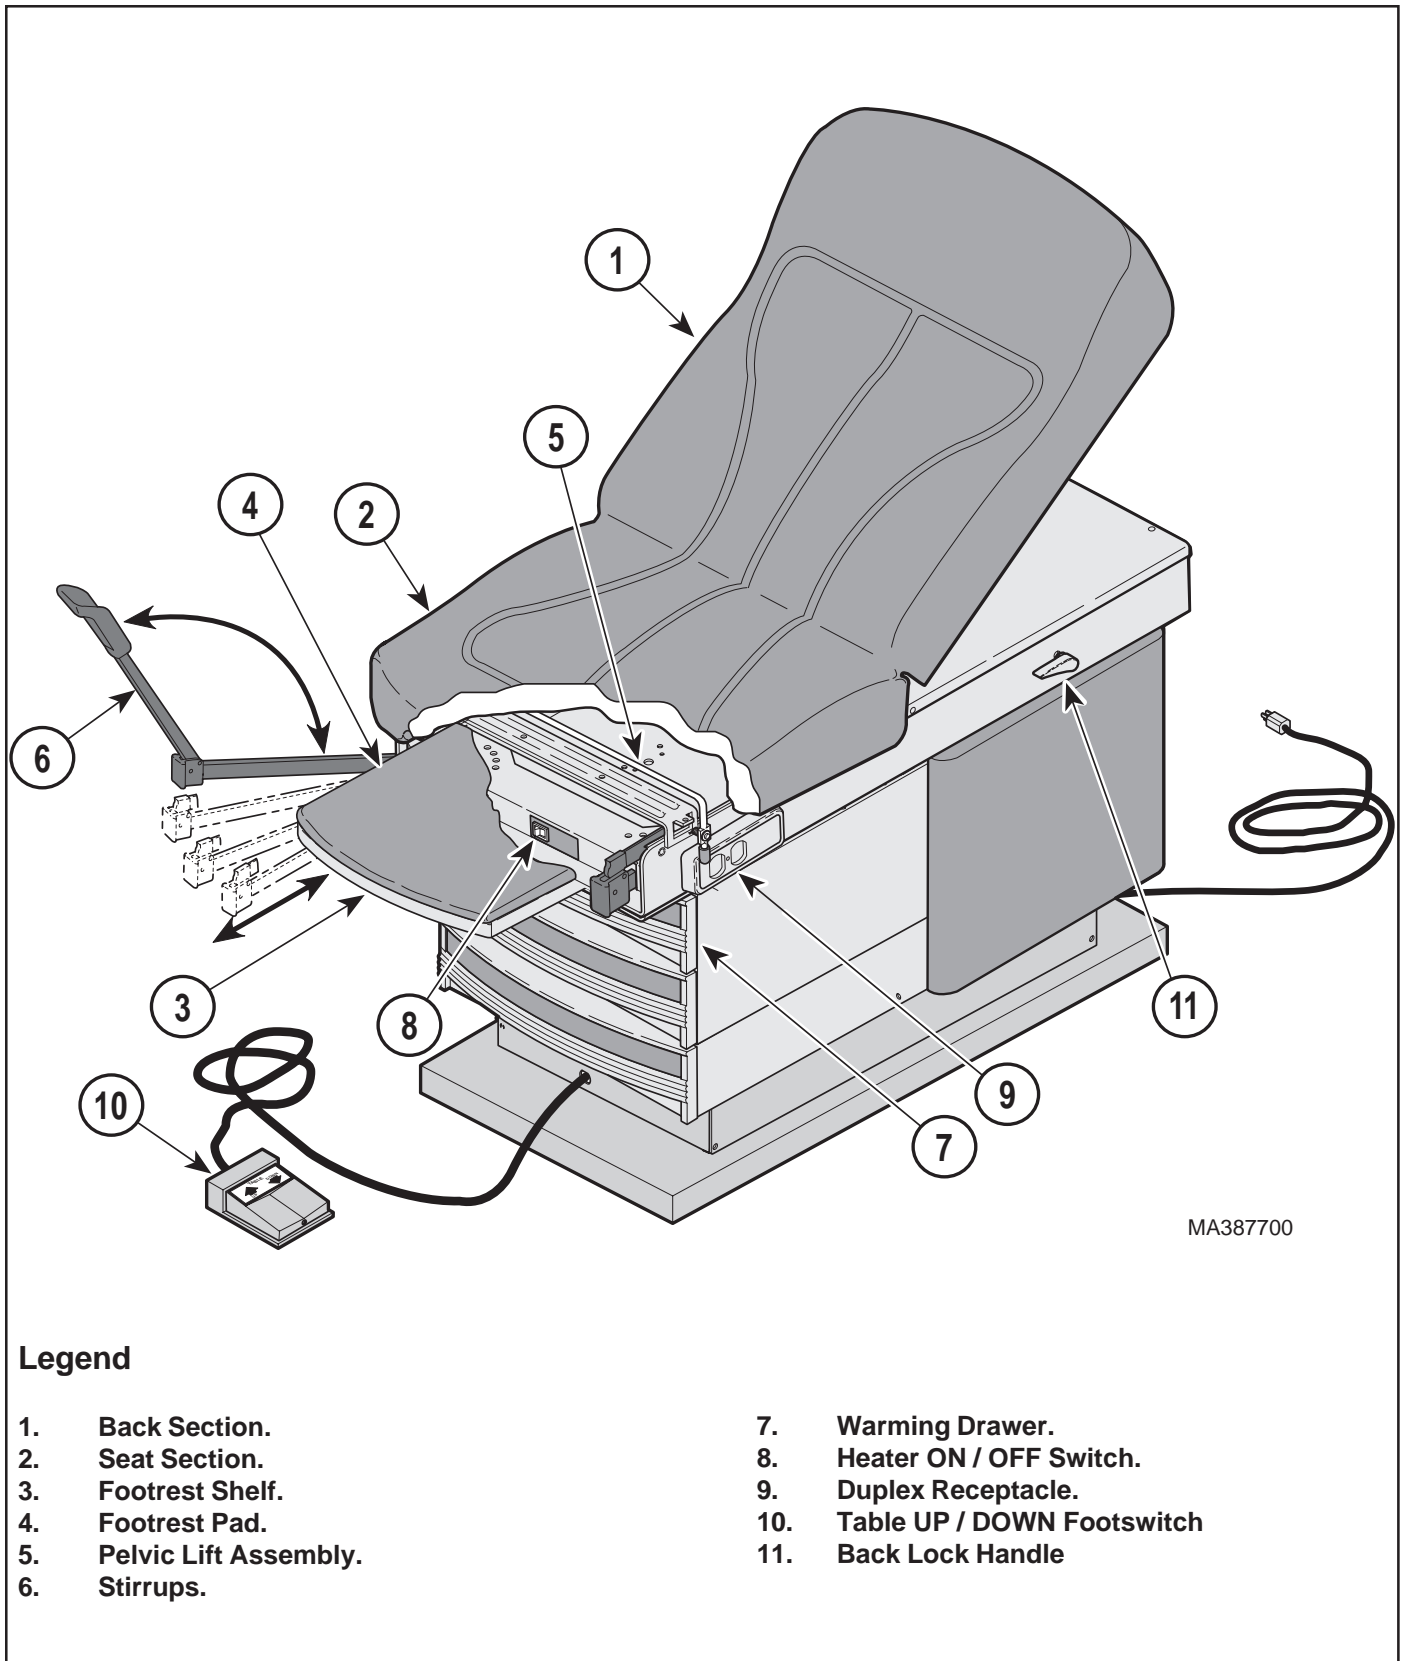

Figure 2-1. Operational Test
2.1 Operational Test (See Figure 2-1)